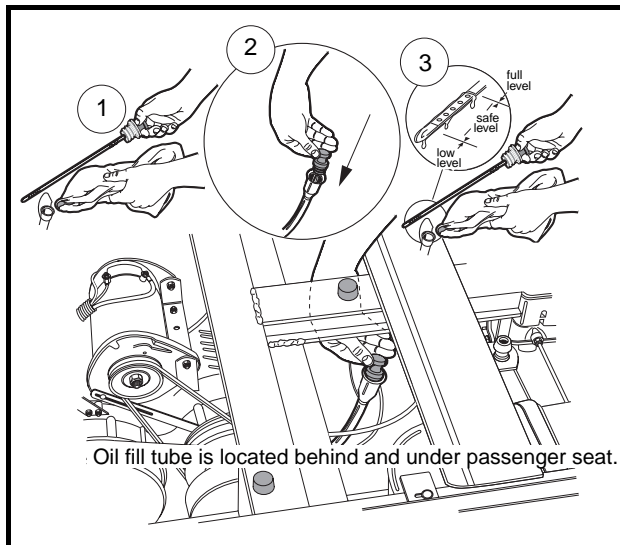
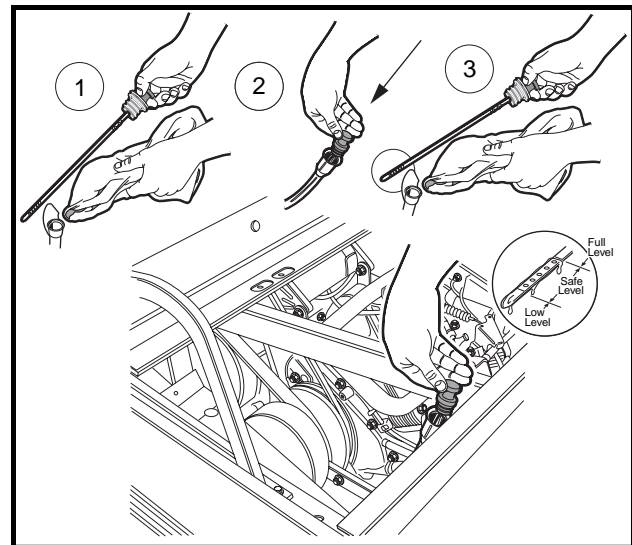

Figure 19 Engine Oil Level Check –
Figure 20 Engine Oil Level Check –
1. Remove the oil level dipstick from the oil filler tube and wipe oil from dipstick. See **Figure 19** or **Figure 20**. See following **CAUTION**.